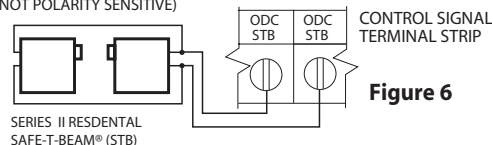

Figure 6
- 1) Monitored SERIES II (STB) photocells (P/N OPAKPE.S) and Residential Safe-T-Beam® Monitored Photocells from Genie® (P/N 37220R & 38176R.S). **Fig. 6.** Wiring to these photocells can be connected to either terminal (they are not polarity sensitive.) (**Troubleshooting in Section 8**)